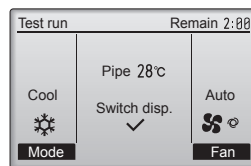

Fig. 7-5
- ① Press the button to go through the operation modes in the order of "Cool" and "Heat". (Fig. 7-5)